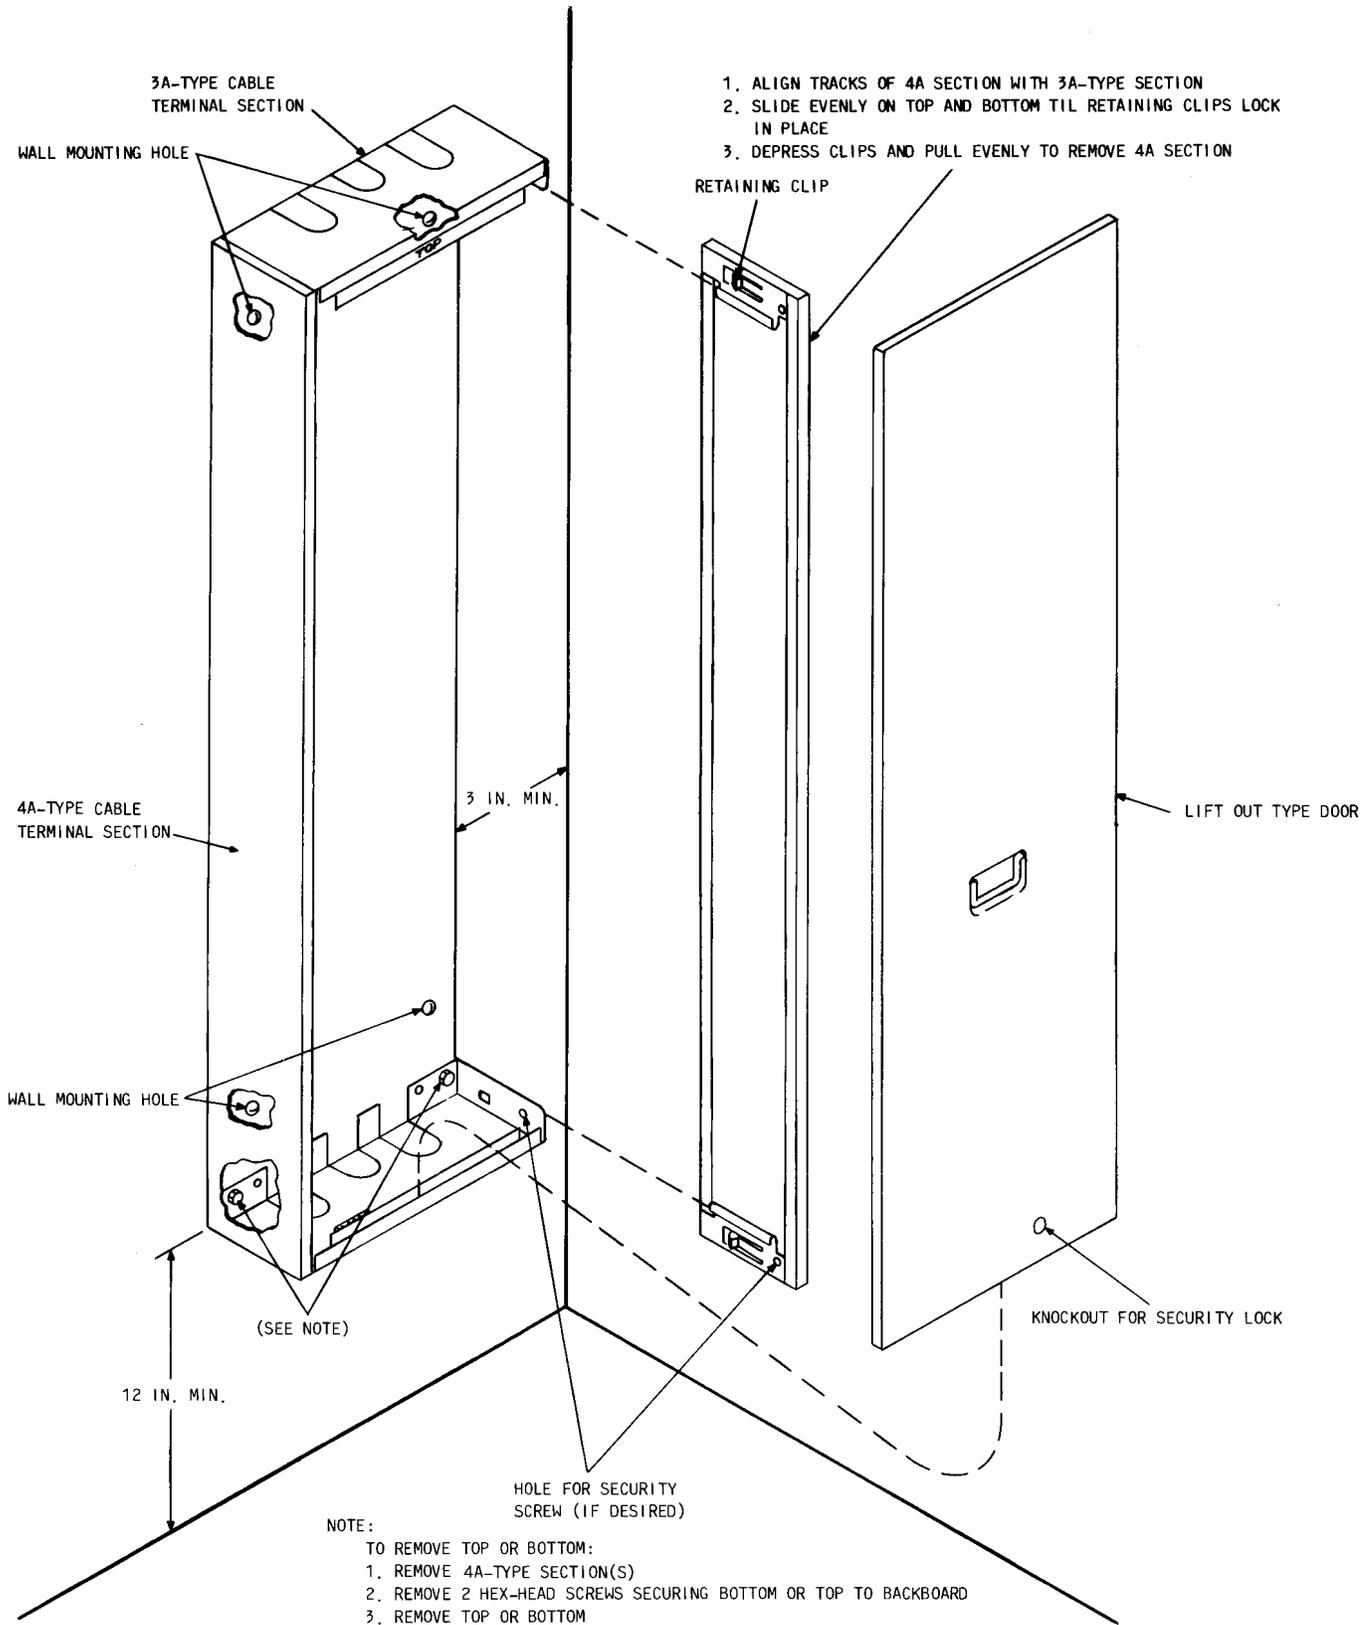

Fig. 12—Installation of 3A- and 4A-Type Cable Terminal Sections
3.02 ♦Figure 12 shows the typical installation of a 3A- and 4A-type cable terminal section.♦